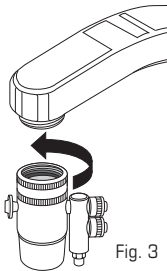

Fig. 3
- a) **Position** the Divertor onto the faucet and **hand tighten** the textured collar counterclockwise until secure (Fig. 3).